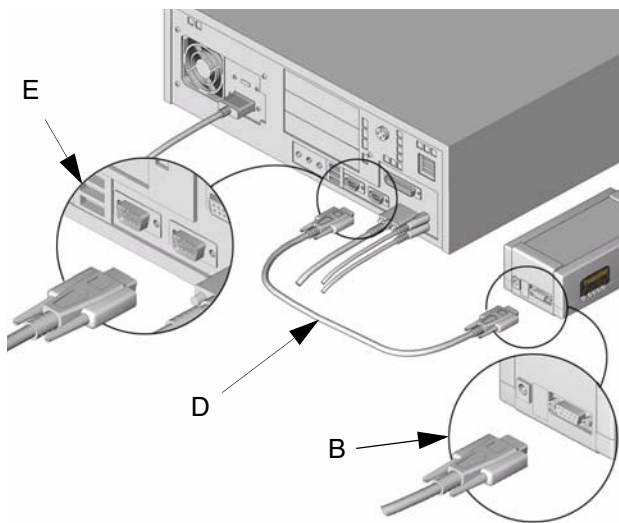

FIG. 4
1. Connect the PC serial port (E) to the Transceiver serial port (B) using the 100 ft. (30.5 m) RS232 cable (D) (part no. 118346). **Do not cut** the cable (D) to remove any excess. Coil excess and place in out of way location. See FIG. 4.
2. With the connections made, plug and screw in the converter to the open serial port (E) on the PC. See FIG. 4.